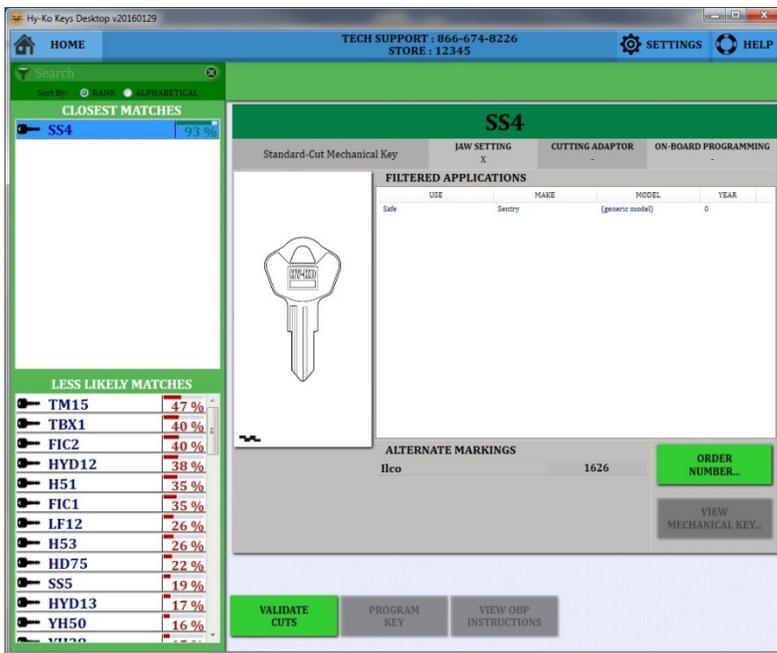

fig. 51
- Once you have completed cutting the key you can return to the Vision Box to validate the cuts on the new blank in relation to the customer's key (see fig. 51).